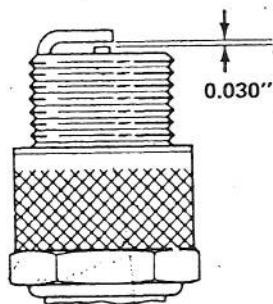

Figure 36
3. Set air gap between electrodes of new spark plug at 0.030 of an inch (Fig. 36). Next, install spark plug in cylinder head. Tighten plug to 15 ft-lb. If torque wrench is not used, tighten plug firmly.